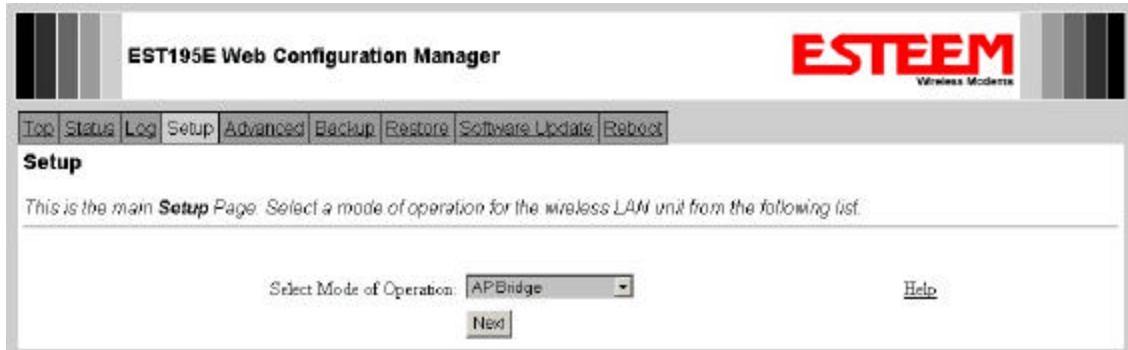

Figure 2: Access Point Bridge Setup Screen
- From the Model 195Eg Top menu select Setup. From the Select Mode of Operation pull down box , select AP Bridge and push the Next button below the pull down box. You will now see the screen shown in Figure 2. *Note: Throughout the Configuration Manager are Help Screens that can accessed for further information on each item.*